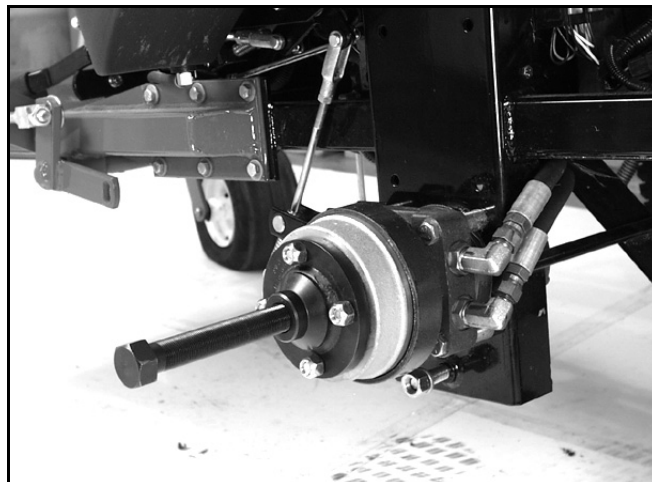

Figure 79
6. Using the special puller, remove the brake hub from the wheel motor (Figure 79).